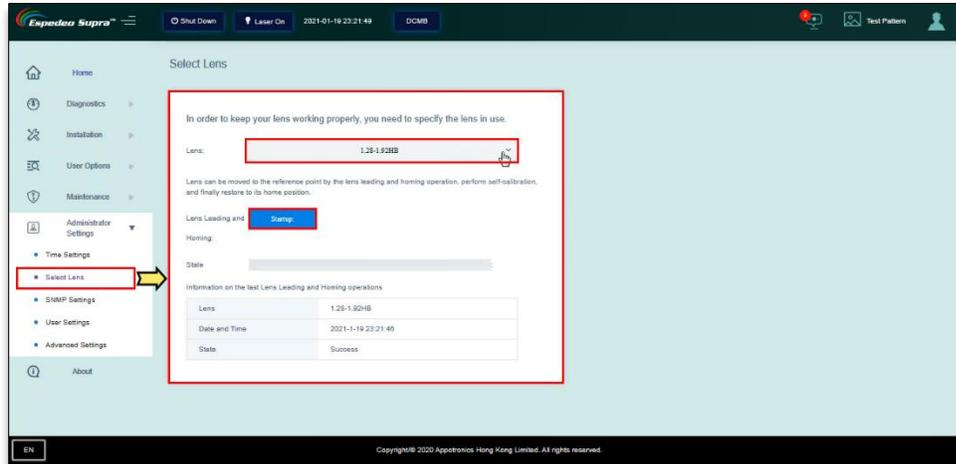

Figure 60:
- From the **Administrator Settings** screen of the Supra Command Center web interface; click on the **Select Lens** option. Select the correct lens model from the 'Lens:' drop-down and click the **Startup** button. Refer to **Figure 60**.